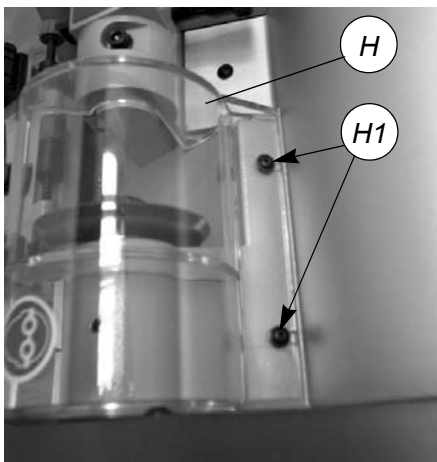

Fig. 26
- 2) Remove the cutter locking screw (H1) and remove the cutter protective shield (H) (fig.26).